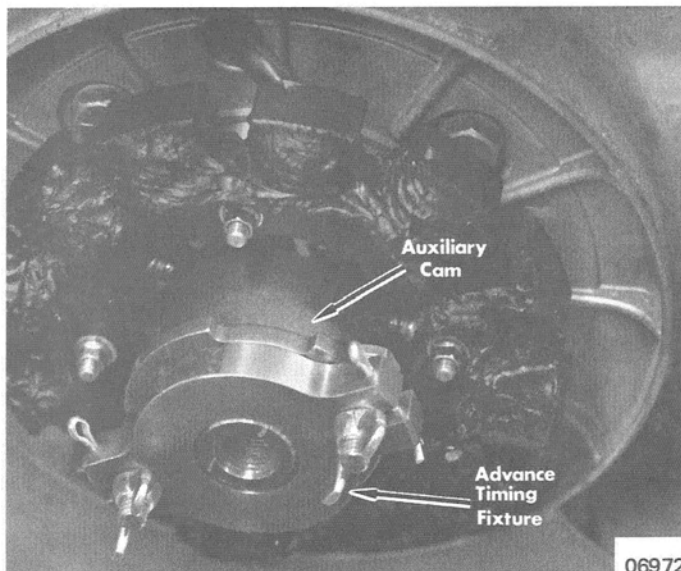

Figure 4. Advance Timing Fixture Installed
6. Align keyway in cam with crankshaft key and install Advance Timing Fixture, part of Timing Tool (C-91-62527A2) on crankshaft, inside cam. (Figure 4)